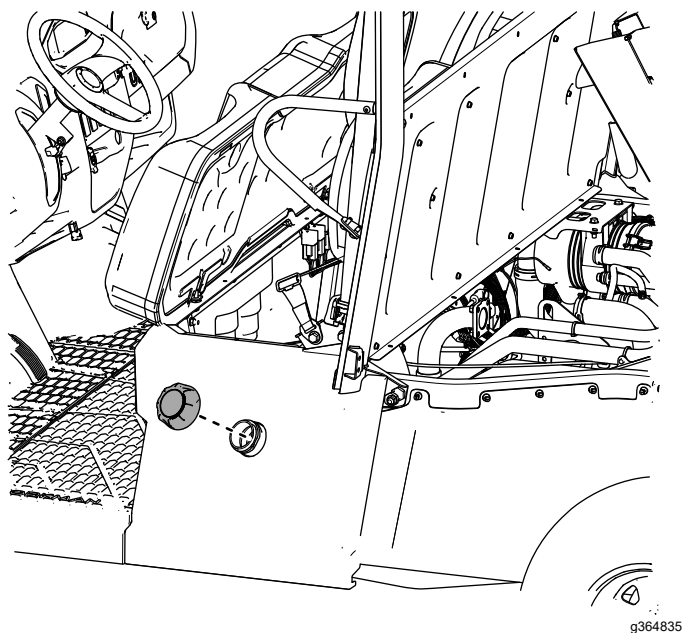

Figure 35
23. Install the fuel-tank cap to the left seat-base panel (Figure 35).